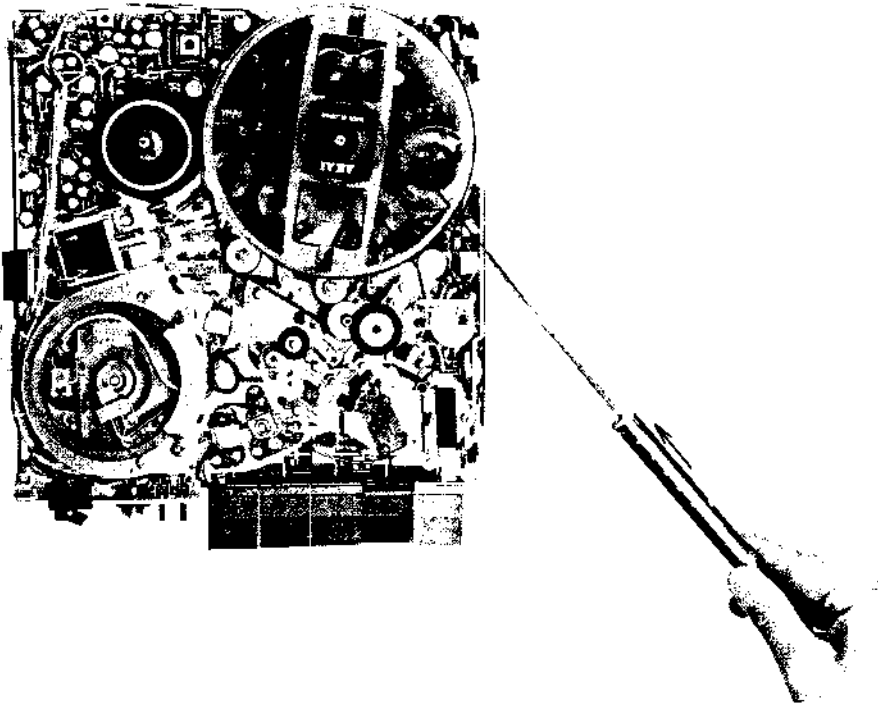

Fig. 1-6
(5) TAKE-UP TORQUE ADJUSTMENT
- a) As shown in Fig. 1-6, use a 50 mm diameter of tape wound on a 5" reel and with 0 to 300g tension gauge, measure the take-up torque at playback mode.